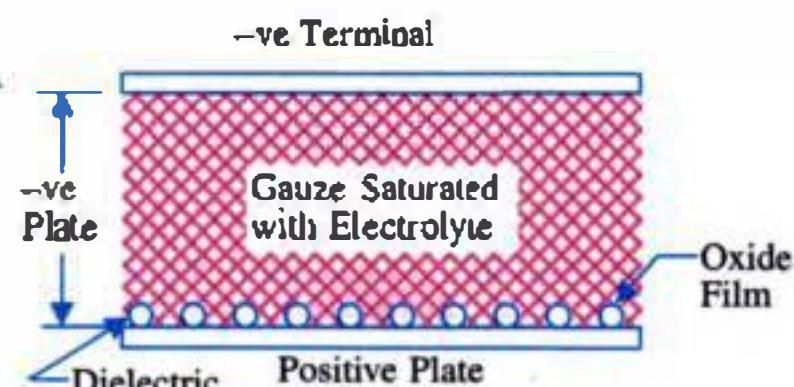

Fig. 5.28
2. an extremely thin (*i.e.*, molecular thin) insulating film of aluminium oxide ( $\text{Al}_2\text{O}_3$ ) as dielectric medium. It is electrochemically deposited on the surface of anode itself (Fig. 5.28);
3. an electrolyte of borax (phosphorus or carbonate). As shown in Fig. 5.28, an absorbent gauze saturated with the electrolyte is kept in contact with the dielectric. The second aluminium plate serves merely as contact to the electrolyte. It forms the negative terminal.